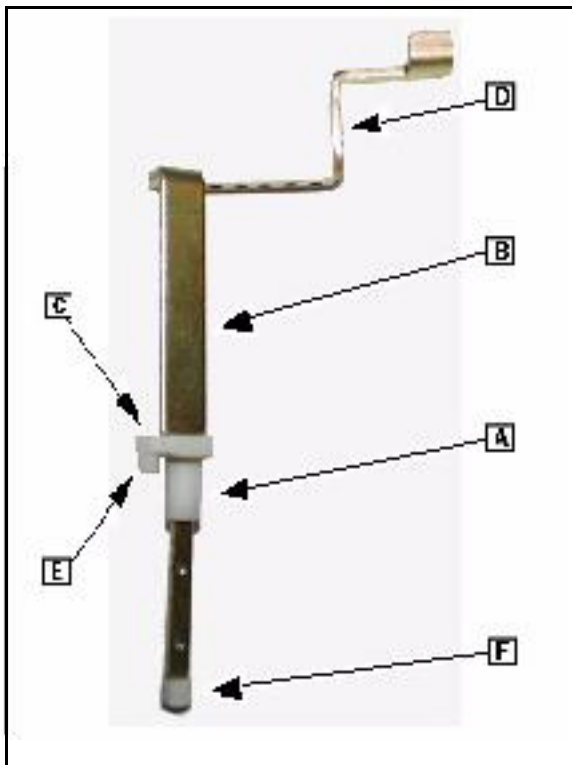
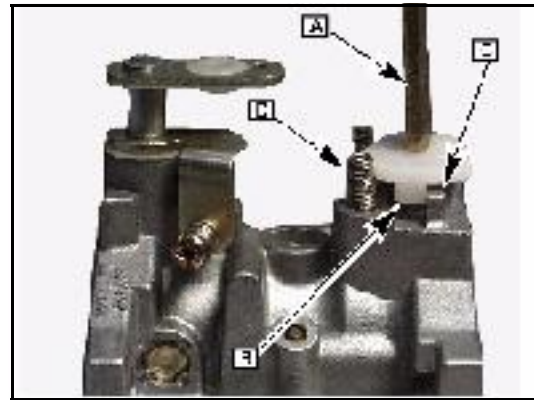

Fig. 38
Fig. 39
5. Place upper choke shaft bushing ([A] Fig. 39) on choke shaft ([B] Fig. 39) with the detents ([C] Fig. 39) facing away from the long choke lever arm ([D] Fig. 38) and the stop ([E] Fig. 38) facing the bottom of the shaft.
6. Place bottom bushing ([F] Fig. 38) on bottom of choke shaft.
7. Install choke shaft ([A] Fig. 39) into carburetor.
**NOTE:** Make sure the choke shaft retainer stop ([B] Fig. 39) is between the carburetor body stop ([C] Fig. 39) and the detent spring ([D] Fig. 39) in order to install the choke plate next.